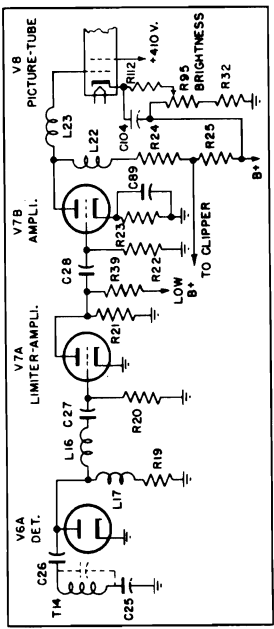

Fig. 4. Video Detector and Amplifier
3. VIDEO DETECTOR AND AMPLIFIER (SEE FIGURE 4)—The video i-f amplifier output is applied to one section of a 6AL5 dual diode, V6A, which is connected as a shunt diode so as to develop a negative-going signal across the diode load resistance, R19. The signal is then amplified by two triode amplifier stages using a Type 12AU7 dual triode tube, V7, L16 and L23 are series compensating coils, while L22 and L17 are shunt compensating coils. These are used to obtain good high frequency response and provide sharp cut-off at frequencies above the usable pass band. L16 also helps prevent harmonics of the i-f frequency from being passed through the video amplifier.